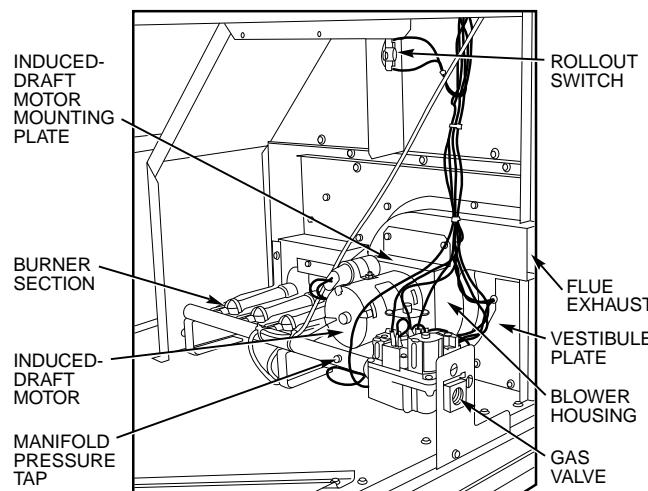

Fig. 44 — Burner Section Details
2. Remove the 7 screws that attach induced-draft motor housing to vestibule plate (Fig. 44).
REMOVAL AND REPLACEMENT OF GAS TRAIN (Fig. 44 - 46.)
7. Remove the 2 screws that attach the burner rack to the vestibule plate (Fig. 44).